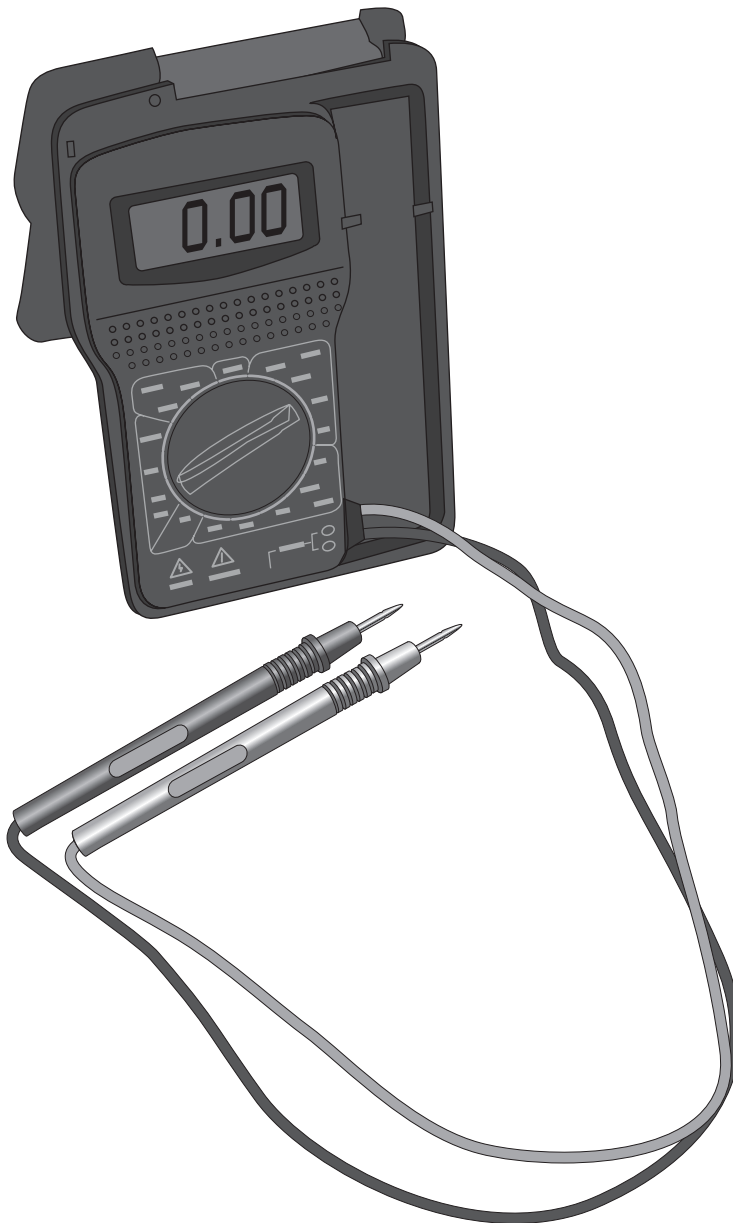

Figure 2-3:
- ◆ You can find out how much voltage exists between two points by using a device known as a *voltmeter*, which has two wire *test leads* that you can touch to different points in a circuit to measure the voltage between those points. Figure 2-3 shows a typical voltmeter. (Actually, the meter shown in the figure is a *multimeter*, which simply means that it can measure things other than voltage. In the figure, the multimeter is functioning as a voltmeter. For more information about using a voltmeter, refer to Chapter 8 of this minibook.)